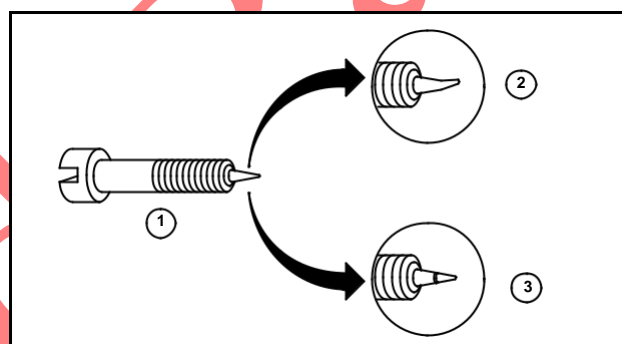

Fig. 66
1. Remove needle valve (1) to inspect.
2. Replace needle valve if needle is bent (2), grooved (3), or broken, Fig. 66.
3. If carburetor is gummy or dirty, remove seat to allow better access to metering holes (1). Choke Throttle (3)
After cleaning, inspect for wear, damage, cracks, or plugged openings. Replace body if any of above conditions exist. Use only compressed air to clear plugged openings. Inspect idle mixture needle for bent needle point or a groove in tip of needle, Fig. 66. Replace if bent or grooved. On Pulsa-Jet low emission carburetors, inspect pilot jet for dirt and sealing in seat area. Do not use drills or wire when checking pilot jet.